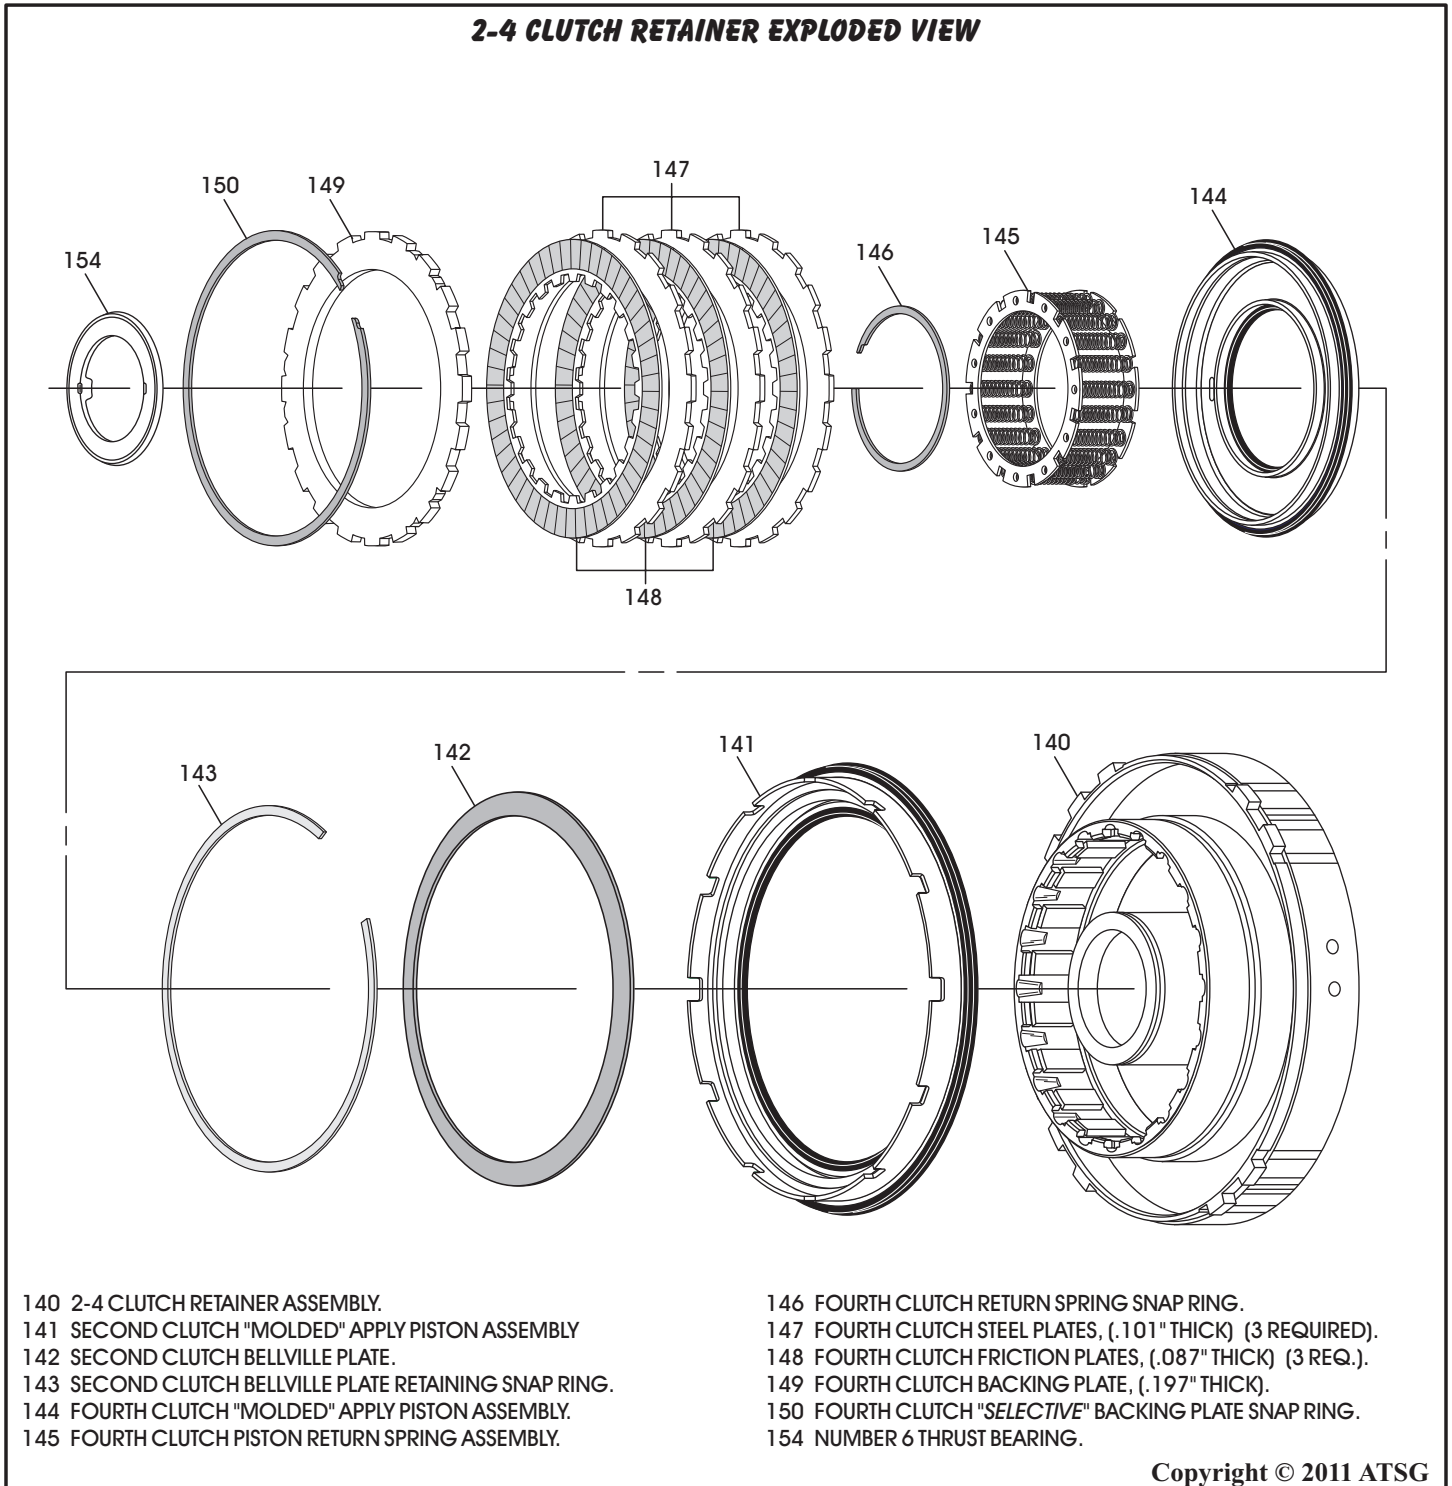

Figure 80
1. Disassemble the 2-4 clutch retainer assembly using Figure 80 as a guide.
6. Install the 2nd clutch piston bellville plate on top of the piston, as shown in Figure 80.